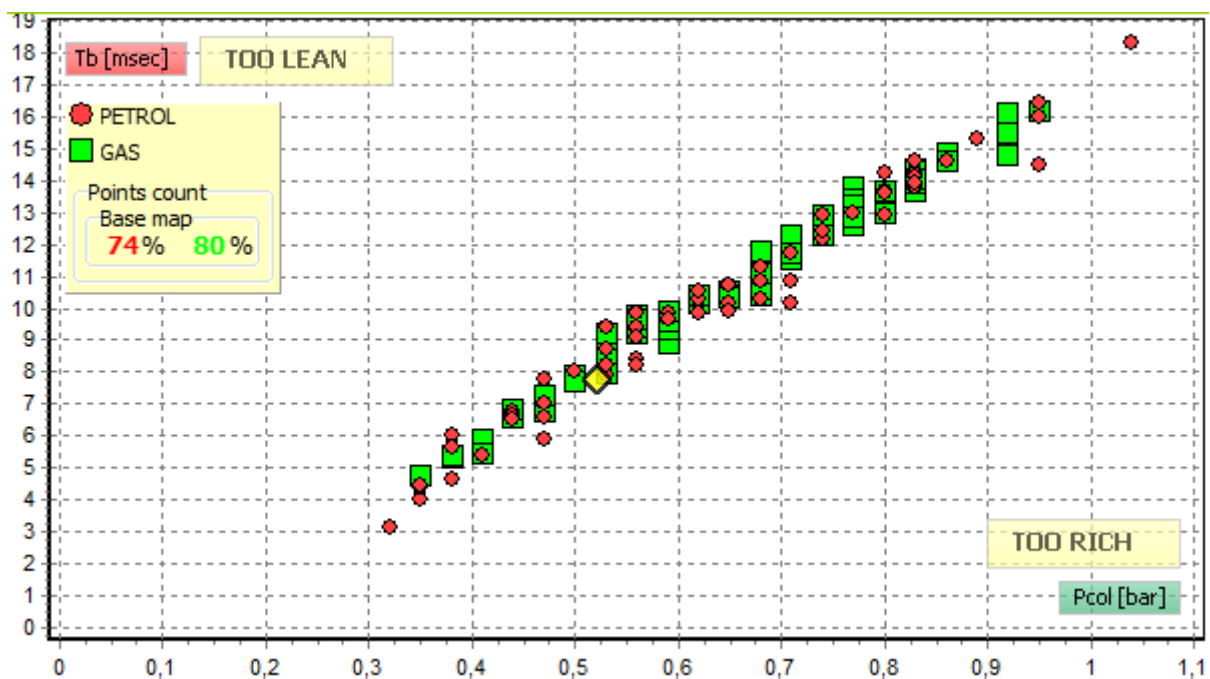

Fig. 3.47 Gas map covering petrol map.
10. Procedure should be repeated until petrol and gas maps covers completely (like on Fig. 3.47).